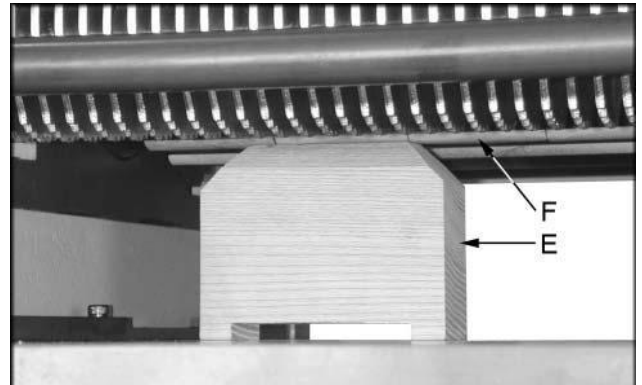

Fig. 16
4. Remove feeler gauge and place wood gauge (E, Fig 16) under the left side of chipbreaker (F, Fig 16).